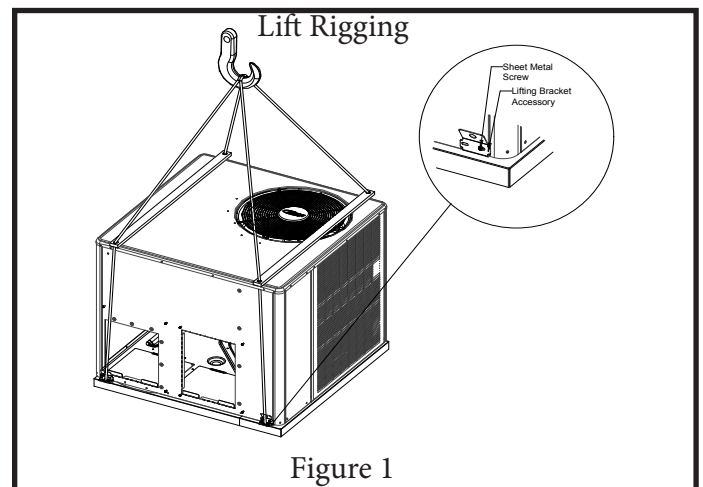

Figure 1
3. Secure the lifting brackets—in the slots used to ship the unit—to the package unit using the screws removed in Step 2. This will be done on all four corners of the unit. See Figure 1 for reference.